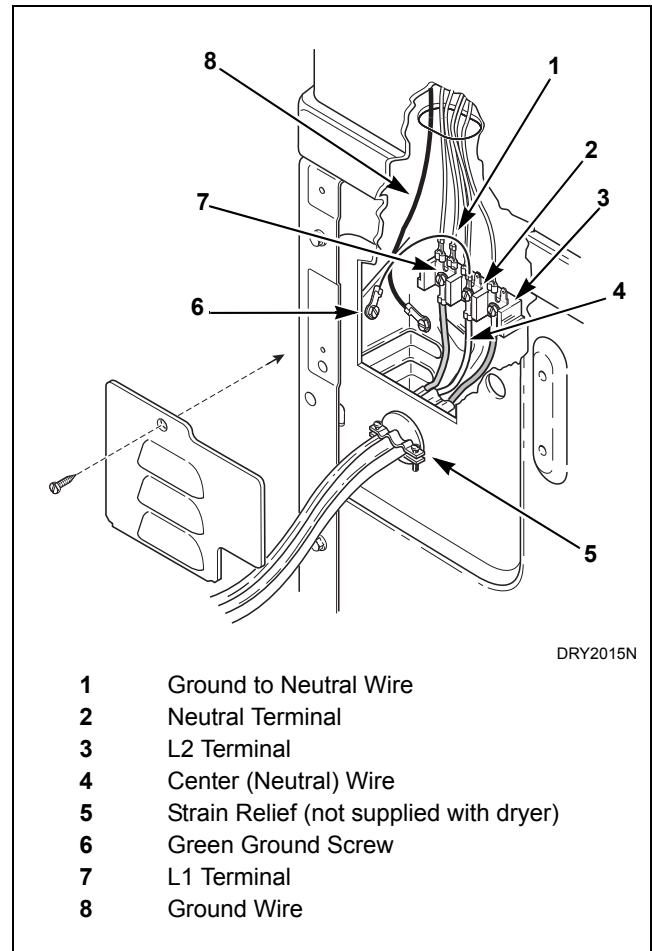

Figure 25
5. Use the three silver screws removed in step 3 to attach the wires from the new power cord and the other end of the green ground wire to the terminal block as shown in *Figure 25*.